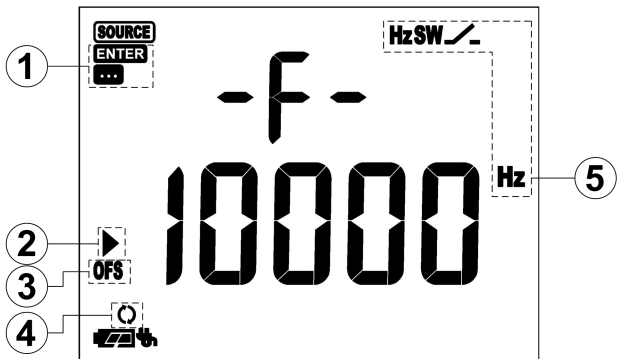

Figure 5.4 The display screen 1 during the frequency signal operation:
Step 1: At the normal operation state of other signals, the key of **Hz**  was pressed to shift to pulse signal types with frequency signal operating state, such as [figure 5.4], (upper row showed: "-F-").